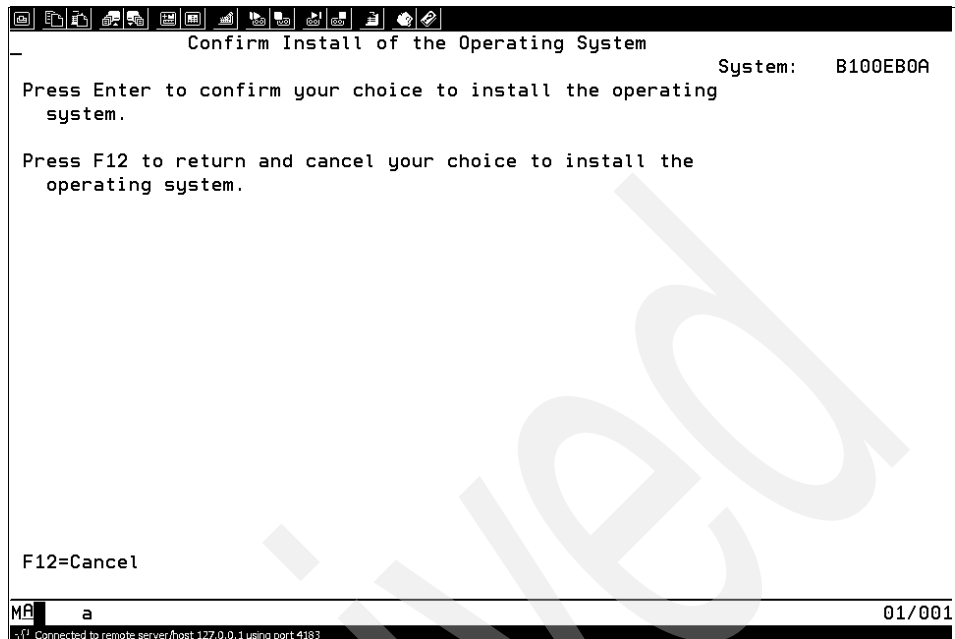

Figure 7-60 Confirm installation
2. The Confirm Install of the Operating System panel is displayed on the console screen, as shown in Figure 7-60 on page 298.